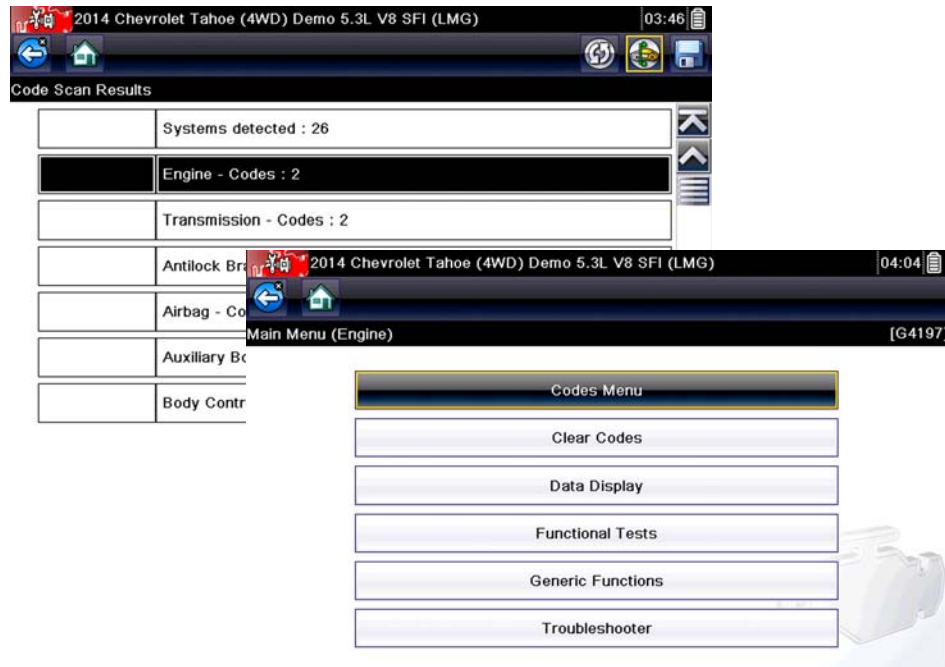

Figure 4-11 System icon (opens Main Menu)
- **A list of all the systems analyzed with DTCs totals.** A categorized system list with DTC totals is displayed in the order they are scanned. To view the main menu for a system in the list, select the system, then select the **System** icon (Figure 4-11).